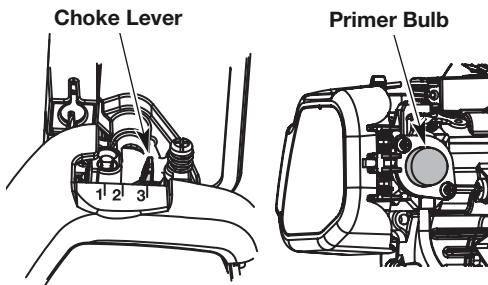
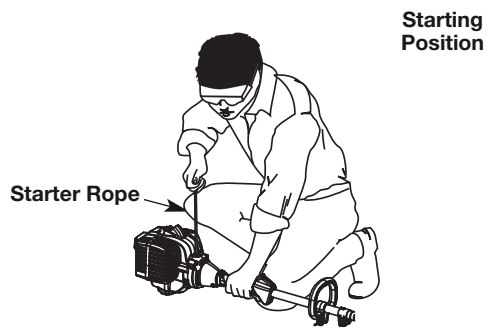

Fig. 7
Fig. 8
WARNING: Avoid accidental starting. Make sure you are in the starting position when pulling the starter rope (Fig. 8). To avoid serious injury, the operator and unit must be in a stable position while starting.
- Fully press and release the primer bulb 10 times, slowly. Some amount of fuel should be visible in the primer bulb and fuel lines (Fig. 7). If fuel can not be seen in the bulb, press and release the bulb until fuel is visible.
- Place the choke lever in **Position 1** (Fig. 7).
- Crouch in the starting position (Fig. 8). Squeeze the throttle control lever. Pull the starter rope 5 times.
- Place the choke lever in **Position 2** (Fig. 7)
- Continue squeezing the throttle control, move the choke lever to **Position 3** (Fig. 7) and continue warming the engine for an additional 60 seconds. The unit may be used during this time.
IF...the engine hesitates, return the choke lever to **Position 2** (Fig. 7) and continue warm-up.
- Fully press and release the primer bulb 10 times, slowly. Some amount of fuel should be visible in the primer bulb (Fig. 7). If fuel cannot be seen in the bulb, press and release the bulb until fuel is visible.
- Move the choke lever to **Position 1** (Fig. 7).
- Crouch in the starting position (Fig. 8). Place the electric starter or power start bit into the back of the unit. Refer to the Operation section of the Electric Starter or Power Start Bit operator's manual.
- Squeeze the throttle control lever. Press and hold the electric starter or drill ON (I) button for 2 seconds.
- Move the choke lever to **Position 2** (Fig. 7).
- Squeeze the throttle control lever, press and hold the electric starter or drill ON (I) button for 2-second intervals until the unit starts.
- Continue squeezing the throttle control, move the choke lever to **Position 3** (Fig. 7) and run the unit for an additional 60 seconds. The unit may be used during this time